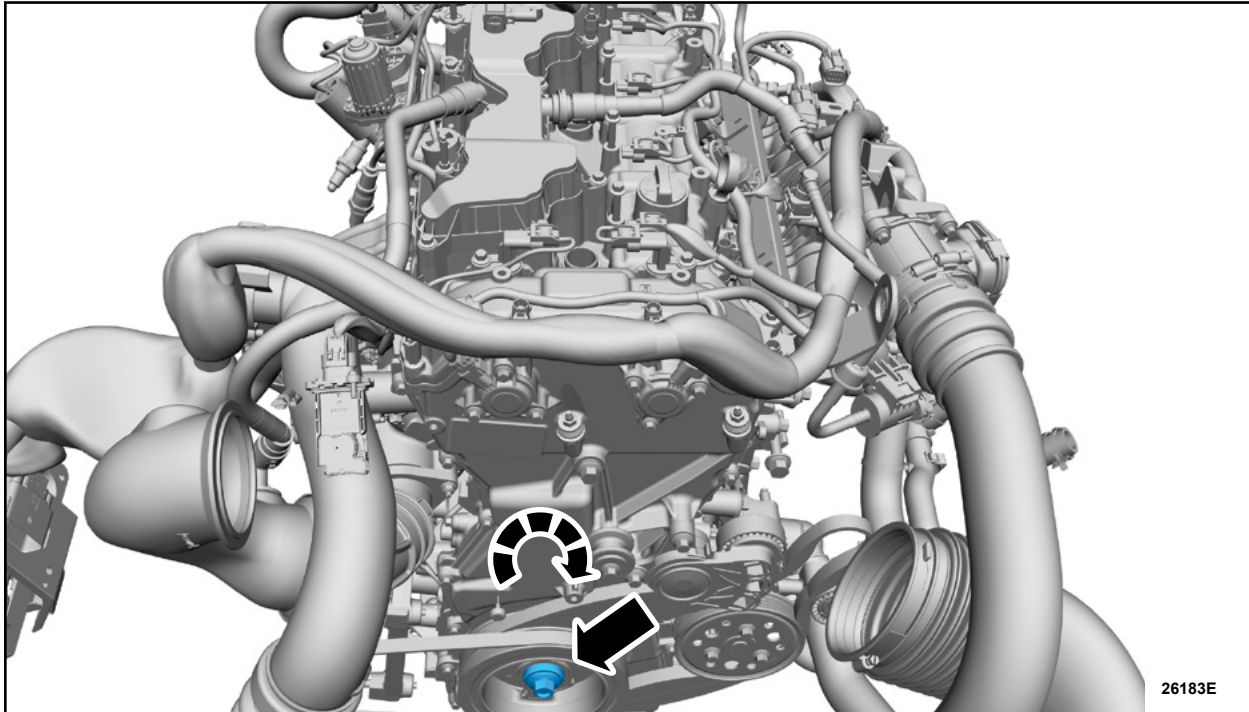

FIGURE 2
4. Using large breaker bar or a long-handle ratchet attached to the crankshaft pulley bolt, position the piston to **Bottom Dead Center** inside the cylinder for inspection. See Figure 2.